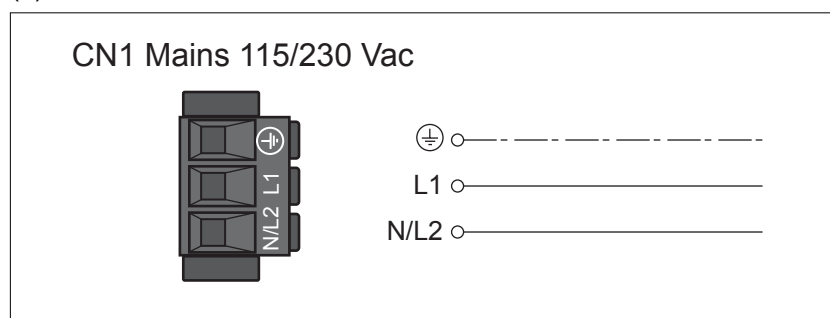

Figure 24: Wiring diagram power stage supply for single-phase device.
- Connect the mains cable (Figure 24). Note the tightening torque specified for the terminal screws.